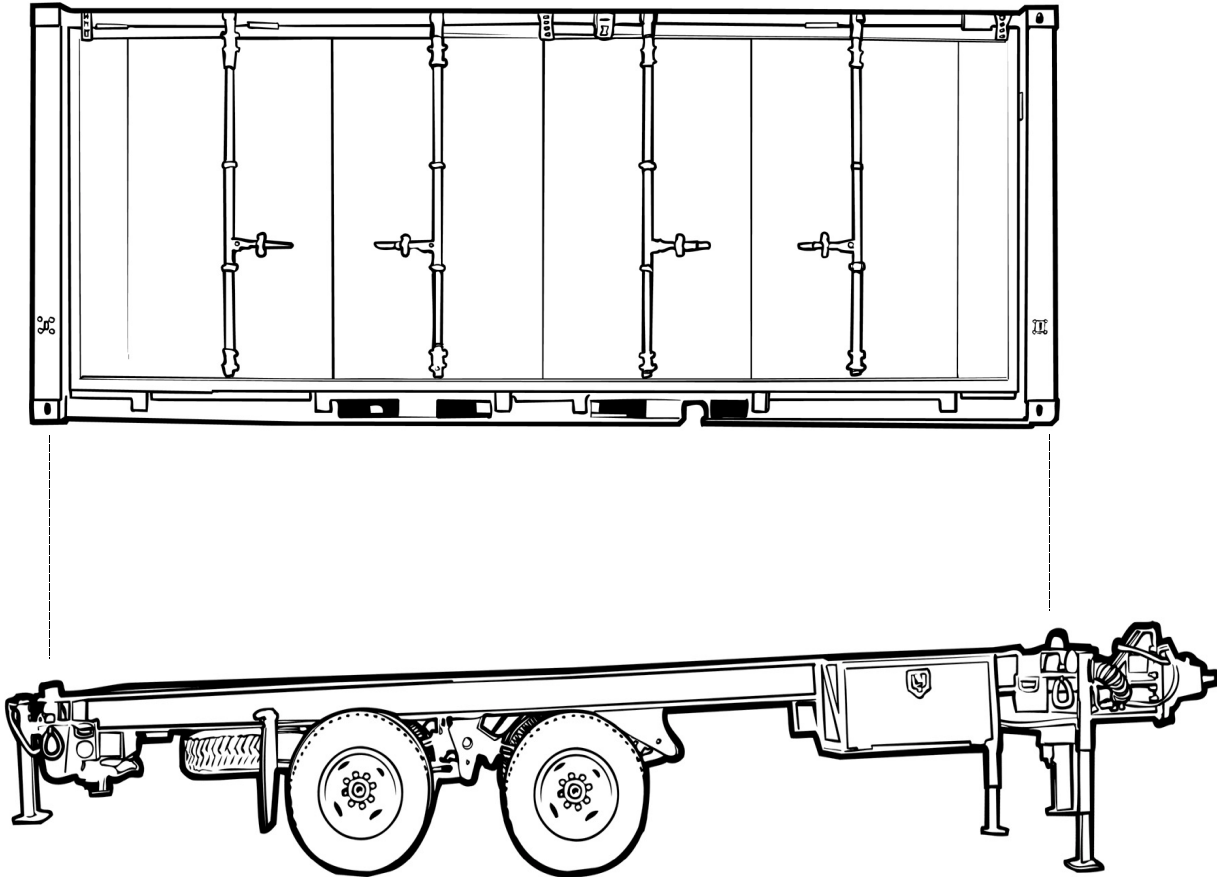

Figure 3. Mounting the CK on the Trailer.
2. Lift the CK and place it on the trailer. See Figure 3. Ensure that the container rests flat on the trailer and the corner blocks are positioned over the ISO locks.
**CONTAINERIZED KITCHEN (CK)